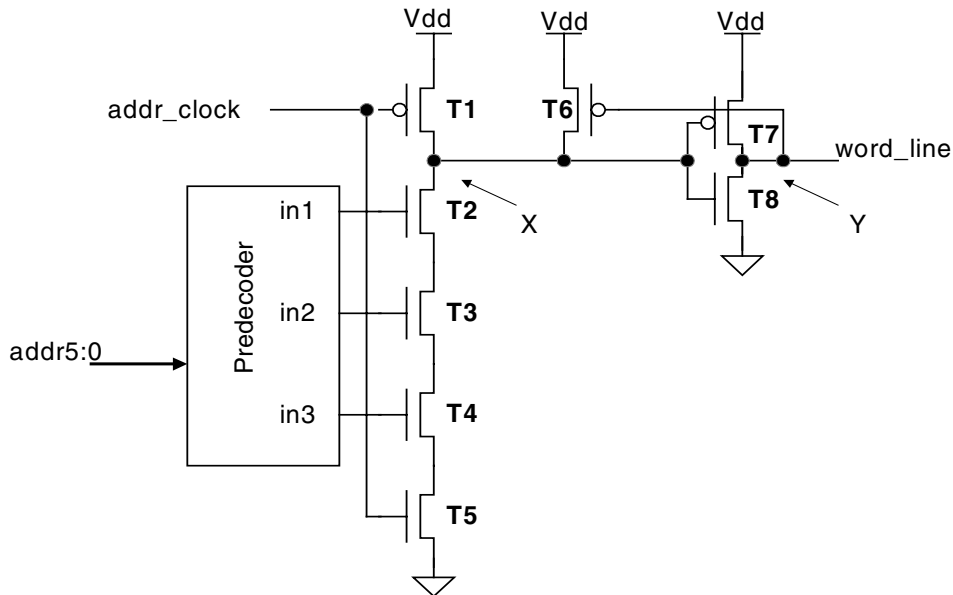

Figure 4a
5. Figure 4a shows part of an address decoder circuit for a CMOS memory chip. T1 and T6 are strong and weak transistors respectively when compared with the pull-down transistors T2-T5. The signals $addr5:0$ forms the 6-bit row address of a memory array.
c) Design the layout of the decoder circuit shown in Figure 4a (excluding the predecoder) in the form of symbolic layout or stick diagram.